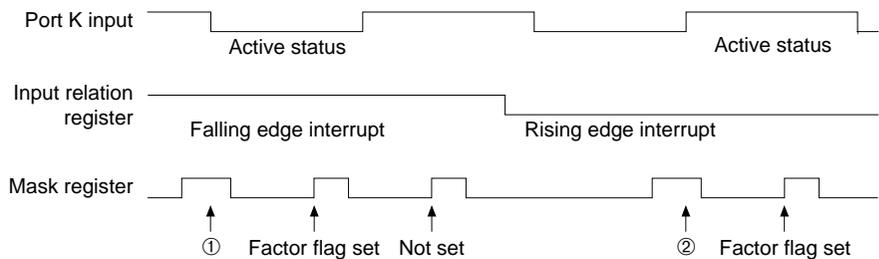

Fig. 7.2.1
When an interrupt is triggered at the falling edge of an input terminal, a factor flag is set with the timing of ① shown in Figure 7.2.1. However, when clearing the content of the mask register with the input terminal kept in the Low status and then setting it, the factor flag of the input interrupt is again set at the timing that has been set.
When an interrupt is triggered at the rising edge of the input terminal, a factor flag will be set at the timing of ② shown in Figure 7.2.1. In this case, when the mask registers cleared, then set, you should set the mask register, when the input terminal is in the Low status. In addition, when the mask register = "1" and the content of the input relation register is rewritten in the input terminal active status, an input interrupt factor flag may be set. Thus, you should rewrite the content of the input relation register in the mask register = "0" status.
- (1) When BZ,  $\overline{\text{BZ}}$ , FOUT,  $\overline{\text{FOUT}}$ , and PTCLK (DC) are selected by mask option, a hazard may be observed in the output waveform when the data of the output register changes.
- (2) Because the R00–R03, R10–R13, R20–R23, and R30–R32 (R33) ports gain high impedance during initial reset, be careful when using them as interface with external devices and the like.
- (3) When R33 port is selected for 2 states and DC (PTCLK) output by mask option, R33 terminal becomes undefined at initial reset.